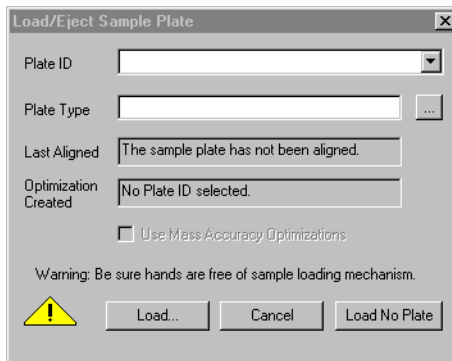

Figure 3-6 Load/Eject Sample Plate Dialog Box
4. From the Sample Plate menu, select **Load** to retract the sample plate and insert it into the main source chamber. The Load/Eject Sample Plate dialog box (Figure 3-6) is displayed.